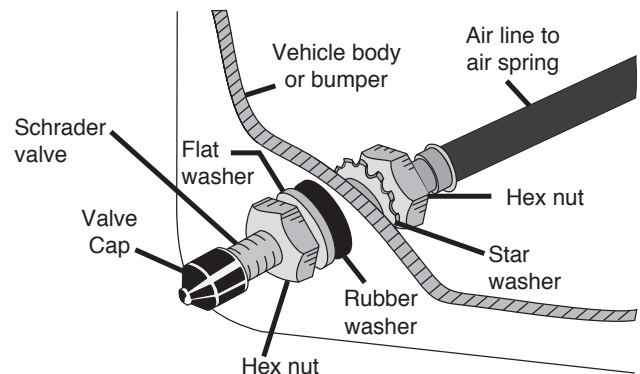

fig. 9
5. Push the inflation valve through the hole and use the rubber washer, flat washer and another 5/16" nut to secure it in place (Fig. 9). Tighten the nuts to secure the assembly.